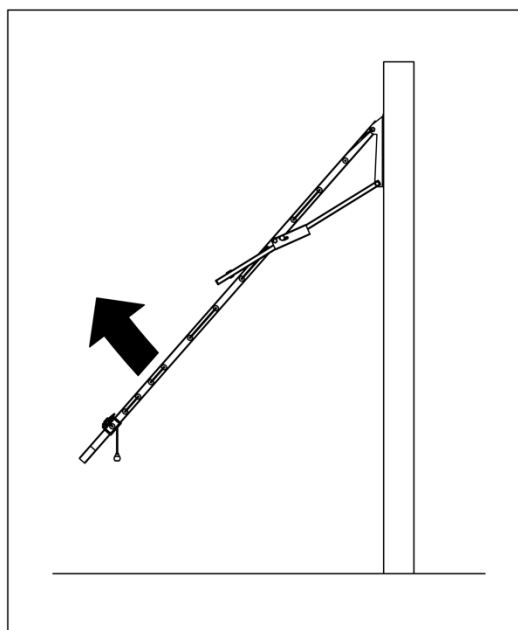

Fig 10. To Extend.
- Using both hands grab the front bar in the centre and lift upward. (Fig.10)